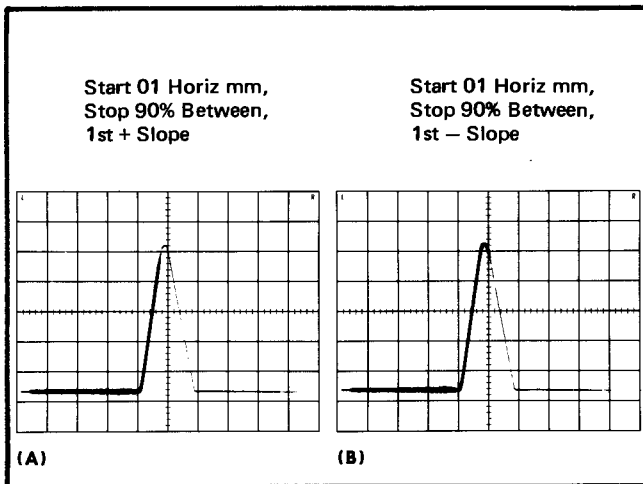

Fig. 2-10. Measurement information included in (A) Sample Program 5 and (B) Sample Program 6.
Two sample programs will be set up to illustrate how a pair of consecutive measurements can be made to determine the exact time of a peak amplitude occurrence. A pulse generator such as a Tektronix Type 115 is used to produce a pulse-type signal with its peak occurring at about the 5-cm vertical graticule line on the Type 568 CRT (see Fig. 2-10). The time (minus 1 mm) from the sweep start to the 90% point on the rise of the signal is measured on the first program. The time (minus 1 mm) from the sweep start to the 90% point on the fall of the signal is measured on the second program. By accumulating one-half of the count from the first measurement and one-half of the count from the second measurement, the time position (minus 1 mm) from the start of the sweep to the peak of the pulse may be determined.
h. Adjust the Type 115 Width Variable control and Delay Variable control to obtain a display similar to that shown in Fig. 2-10. If a signal source other than the Type 115 is used, it may be necessary to modify the Type 3T5 DELAY on the program card to center the pulse on the Type 568 CRT.